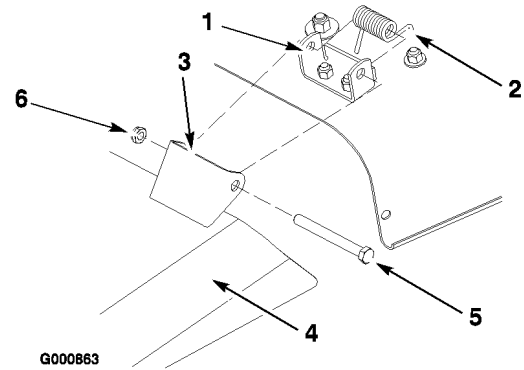

Figure 54
1. Remove the locknut, bolt, and spring holding the deflector to the mower brackets (Figure 54). Remove the damaged or worn grass deflector.
2. Place the springs into the brackets on the mower with the hooked ends over the raised back (Figure 54).
3. Align the grass deflector with the holes in the brackets and the spring straight ends in the space under the hinge and above the deflector (Figure 54).